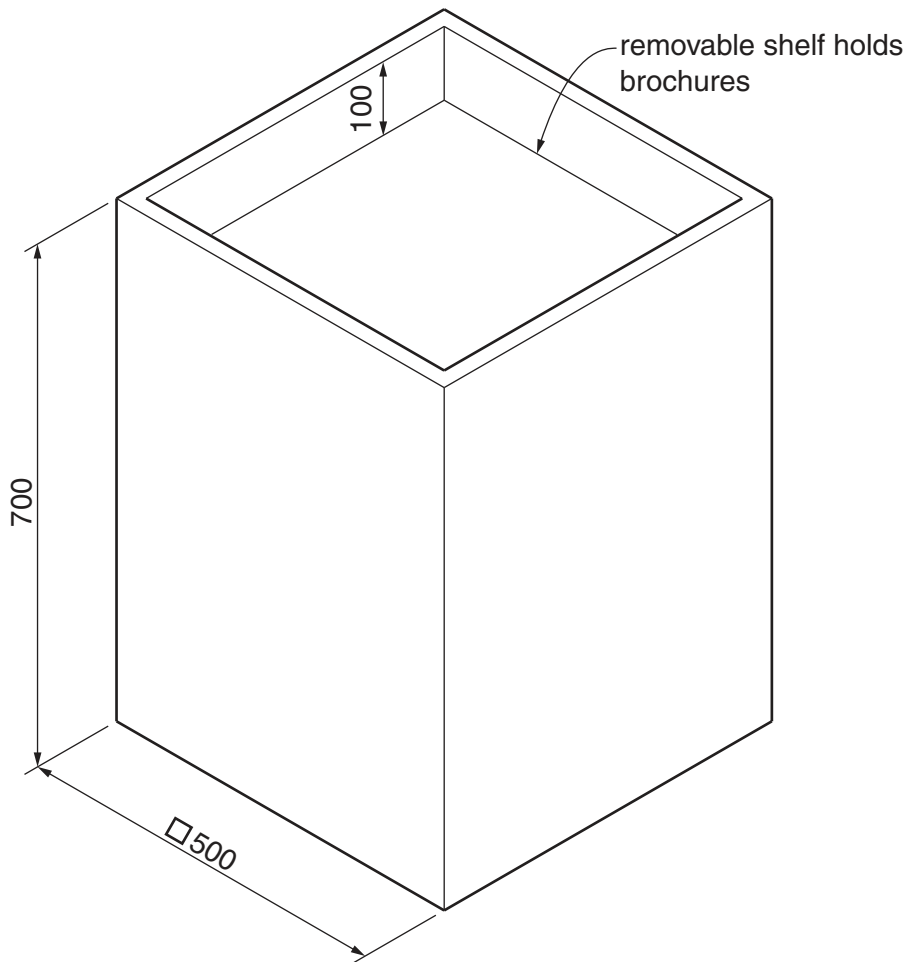

Fig. 8
- 8 Fig. 8 shows an incomplete design for a display stand. The stand will be used to hold brochures and leaflets for 'The Mountain Holiday Company'. The stand will be manufactured in flat pack form from 5 mm thick corrugated cardboard.